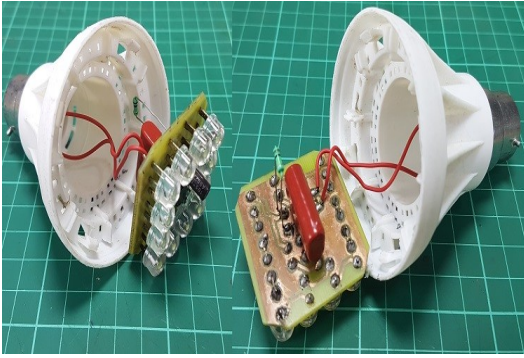

Fig. 6.15: LED bulb connections
Step 10. Mount the PCB board in the LED Housing with all the wires. The complete connections are shown in Figure 6.15.